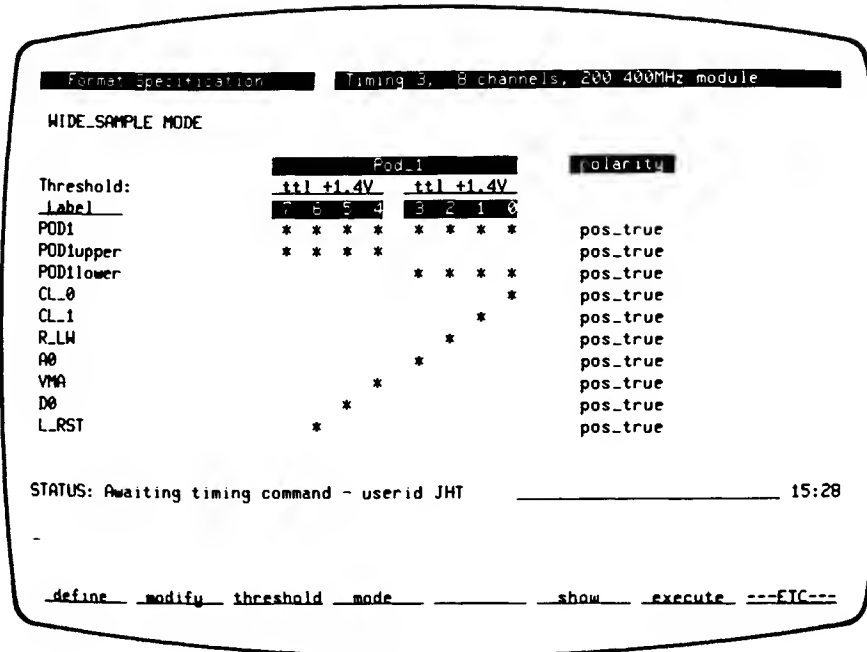

Figure 3-5. 8-Channel Format Specification
5. Define labels for the rest of the inputs as shown in figure 3-5. Use the procedure in steps 2 through 4 or use the -->, <--, TAB, SHIFT TAB, INSERT CHAR, or DELETE CHAR keys to modify the command line to define each new label. Press RETURN to enter each new label definition into the format specification.
6. After you are finished assigning the labels, the format specification will look like figure 3-5. A second line of softkey labels (shown below) is available by pressing the ---ETC--- softkey.